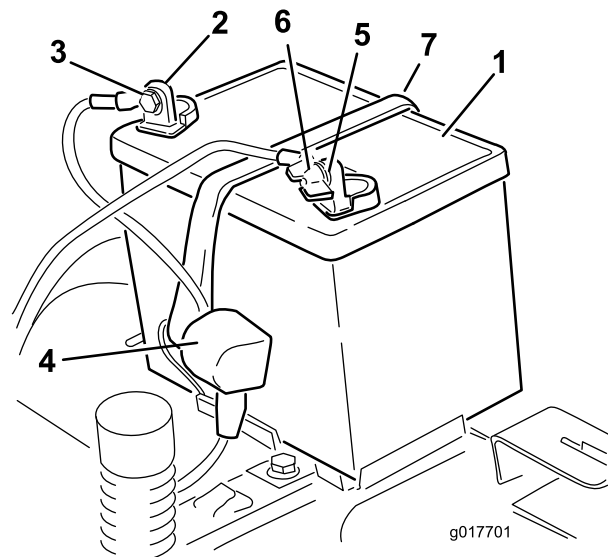

Figure 53
4. Disconnect the negative (black) ground cable from the battery post (Figure 53).
6. Disconnect the positive (red) cable from the battery post (Figure 53).
7. Remove the battery hold-down (Figure 53), and lift the battery from the battery tray.
- Position the battery in the tray (Figure 53).
- Secure the battery with the hold-down (Figure 53).